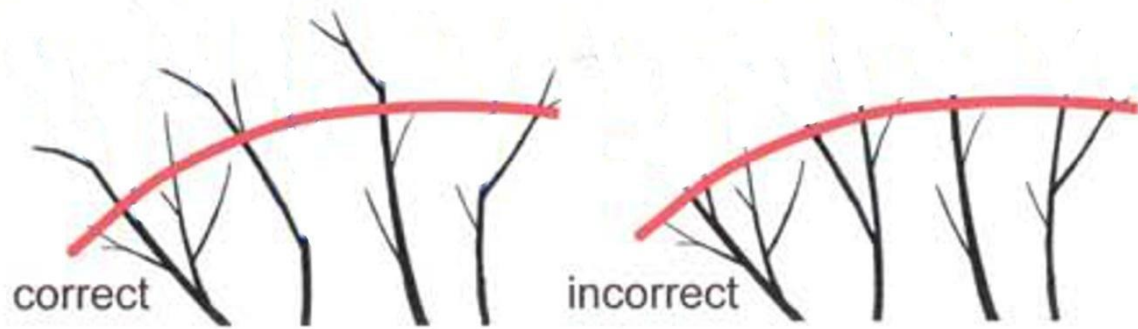

Figure 1
- d. No tree should ever be “topped.” (See **Figure 1**.)